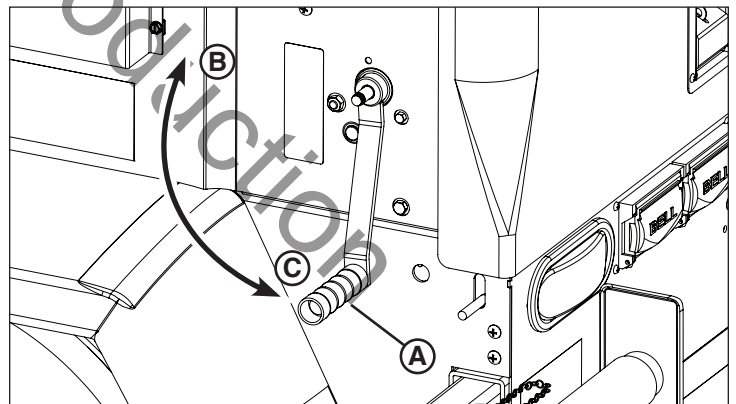

Figure 20
3. Turn the winch handle (A, Figure 20) clockwise (B) until the tower is fully raised. Do not overturn the handle.